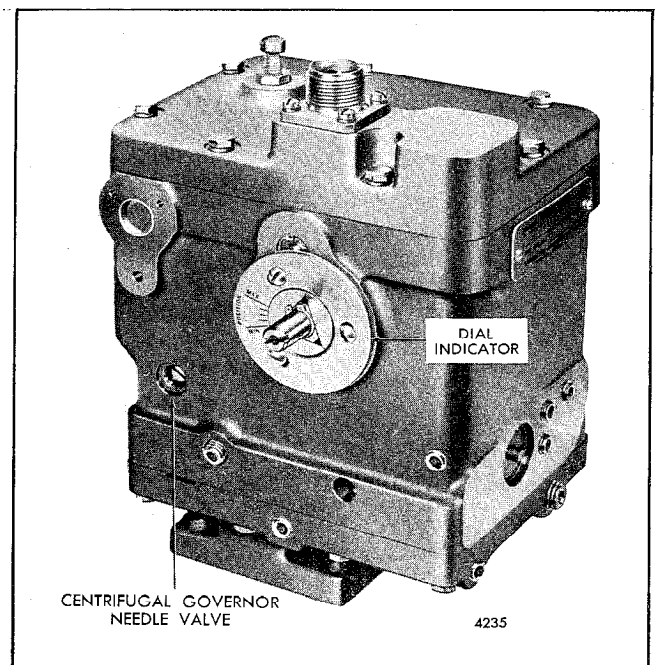

Fig. 6 - Location of Centrifugal Governor Needle Valve
19. As an additional check, the governor operating lever should be in a position indicating maximum on the dial indicator (Fig. 6), when the injector rack control levers are in the full-fuel position. If not, readjust the vertical link.
1. Open the needle valve of the centrifugal governor section (Fig. 6) until the engine hunts or surges. After a half minute, gradually close the needle valve until the engine speed just stabilizes. Closing the needle valve farther than necessary will make the governor slow to return to normal speed after a load change. Never close the needle valve tight.